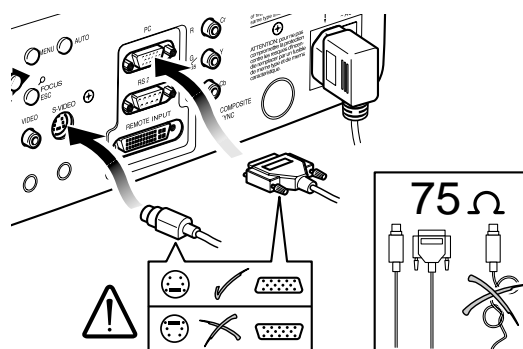

Fig. 33
- With exception of coaxial RCA/Phono type connectors, always double-check that the plug is inserted the correct way round to avoid damaging the plugs or the sockets on the projector (Fig. 33).